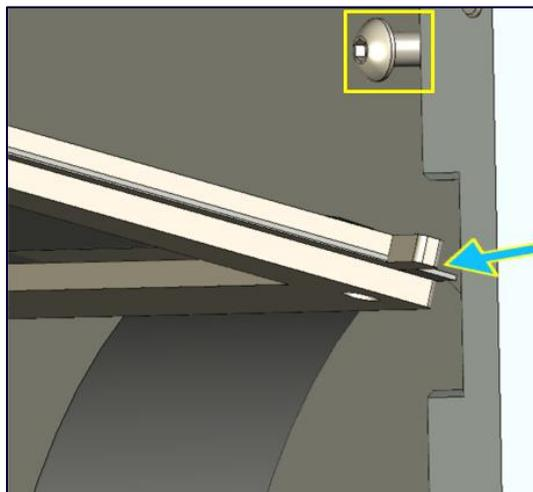

Figure 118: Filter corners and releasing slot
2. Lift the rear filter and slide it out following the arrows in Figure 115 through Figure 118 below: